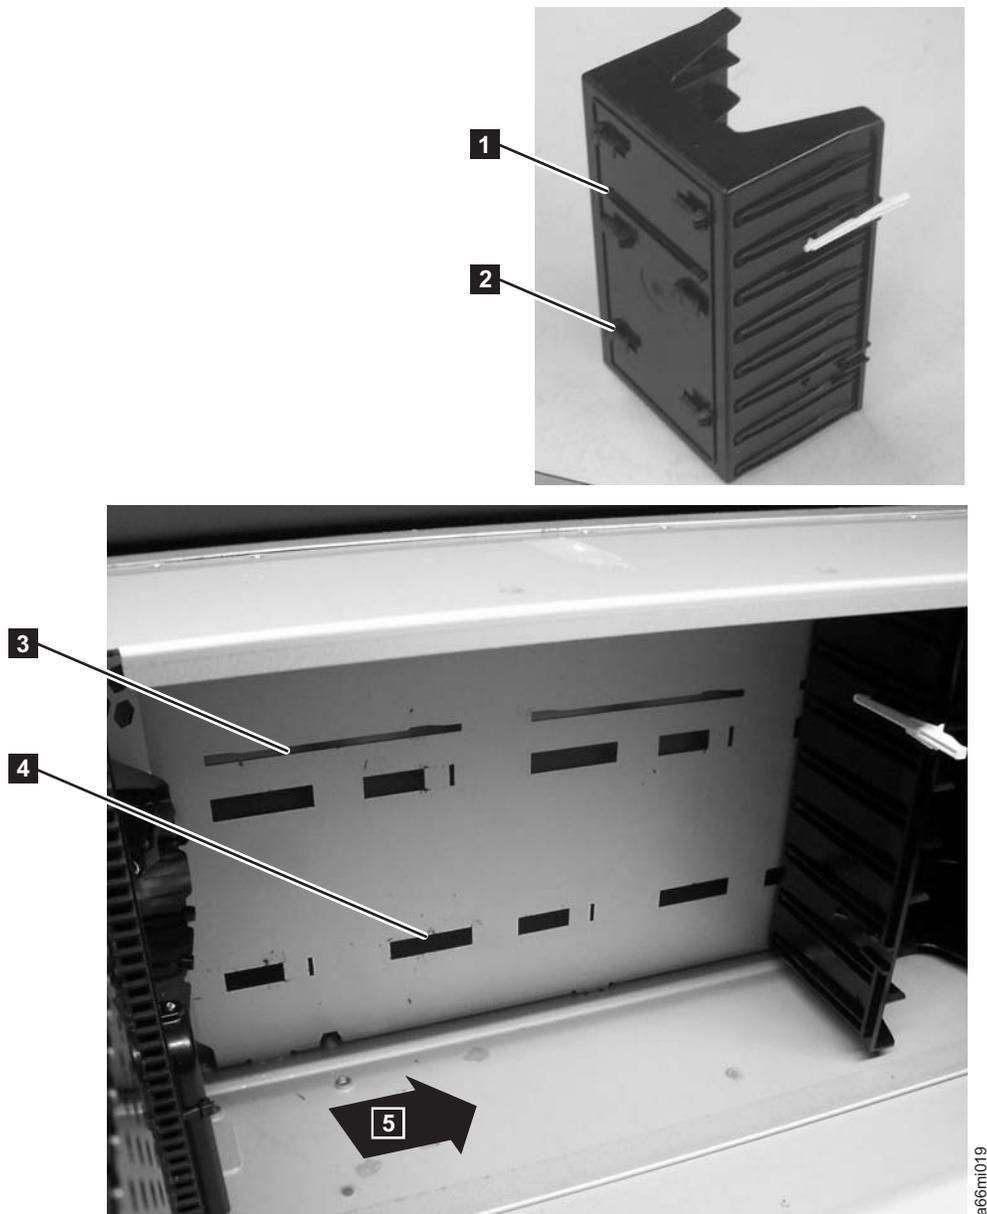

Figure 8-41. Replacing a Storage Column
- a. Tab **1** (in Figure 8-41) into slot **3** (in Figure 8-41)
- b. Tab **2** (in Figure 8-41) into slot **4** (in Figure 8-41)
4. Push the column towards the rear of the library (**5** in Figure 8-41) to engage the locking tabs on the back of the column.